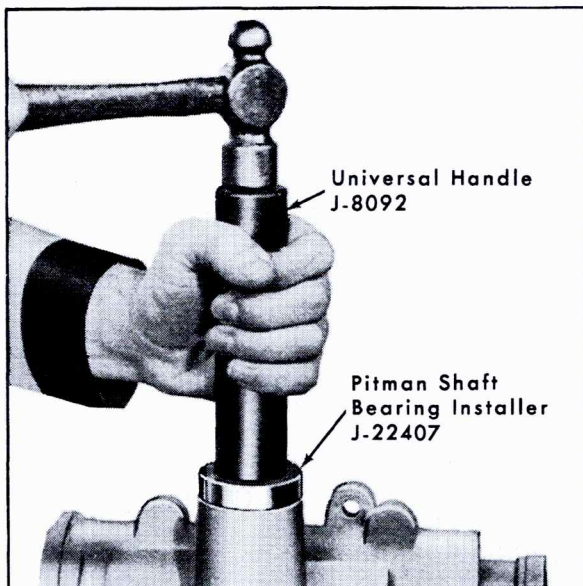

Fig. 9-25 Installing Pitman Shaft Bearing
2. Install pitman shaft needle bearing on Bearing Installer J-22407, with shoulder on bearing against tool. Position bearing and tool in housing and press bearing into housing, until bearing is bottomed out against hub of housing, Fig. 9-25. On constant ratio steering gears press bearing in until bottom edge of bearing is flush with the housing bore surface.